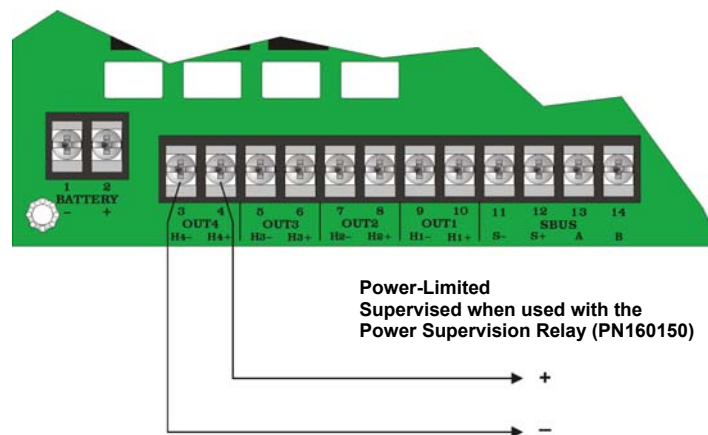

Figure 3.7 Output Circuits Used as Auxiliary Power
1. Wire the output circuit(s) that will be used for the auxiliary power. See Figure 3.7 on page 14 for the location of the output circuits.